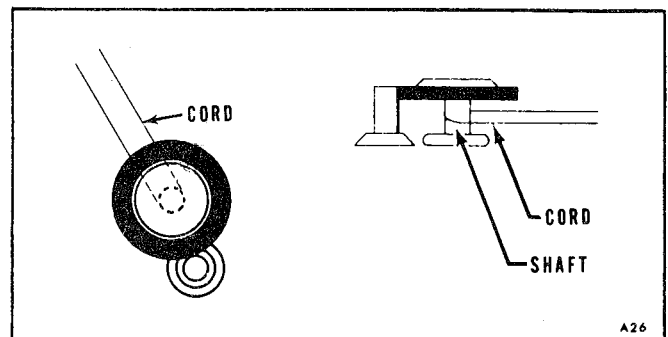

Figure 4-3. Idler Pressure Measurement
4.29 IDLER PRESSURE CHECK (See Figure 4-3)